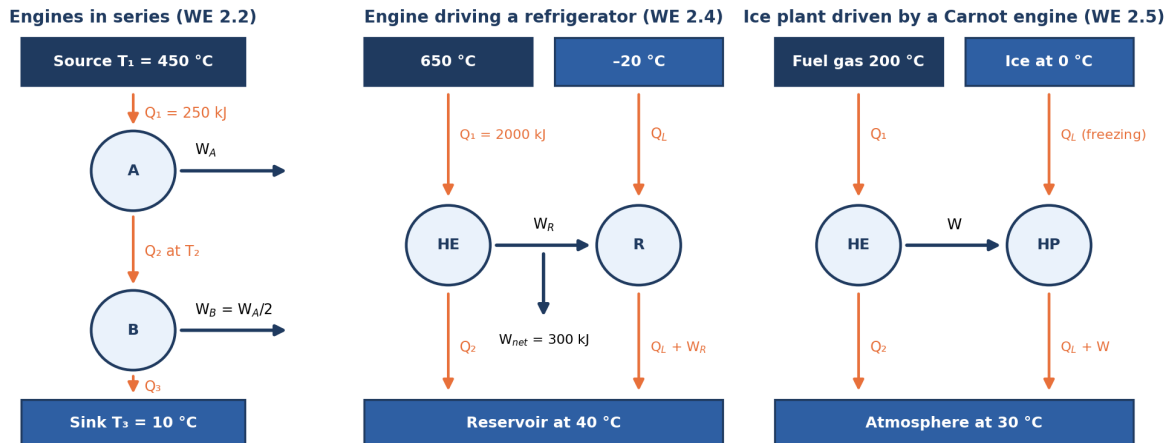

Figure 2.7 Arrangements analysed in Worked Examples 2.2, 2.4 and 2.5.
**Given:**  $T_1 = 450 + 273.15 = 723.15 \text{ K}$ ;  $T_3 = 10 + 273.15 = 283.15 \text{ K}$ ;  $Q_1 = 250 \text{ kJ}$ ;  $W_A = 2W_B$ . Let the intermediate temperature be  $T_2$  (Figure 2.7, left).
**Given:**  $T_1 = 923.15 \text{ K}$ ,  $T_2 = 313.15 \text{ K}$ ,  $T_L = 253.15 \text{ K}$ ;  $Q_1 = 2000 \text{ kJ}$ ;  $W_{\text{net}} = 300 \text{ kJ}$  (Figure 2.7, middle).
**Given:** Ice rate = 12000 kg/day;  $T_{\text{ice}} = 273.15 \text{ K}$ ;  $T_0 = 30 + 273.15 = 303.15 \text{ K}$ ;  $T_s = 200 + 273.15 = 473.15 \text{ K}$ ;  $\text{CV} = 42000 \text{ kJ/kg}$ ;  $h_{\text{sf}} = 334.5 \text{ kJ/kg}$  (Figure 2.7, right).